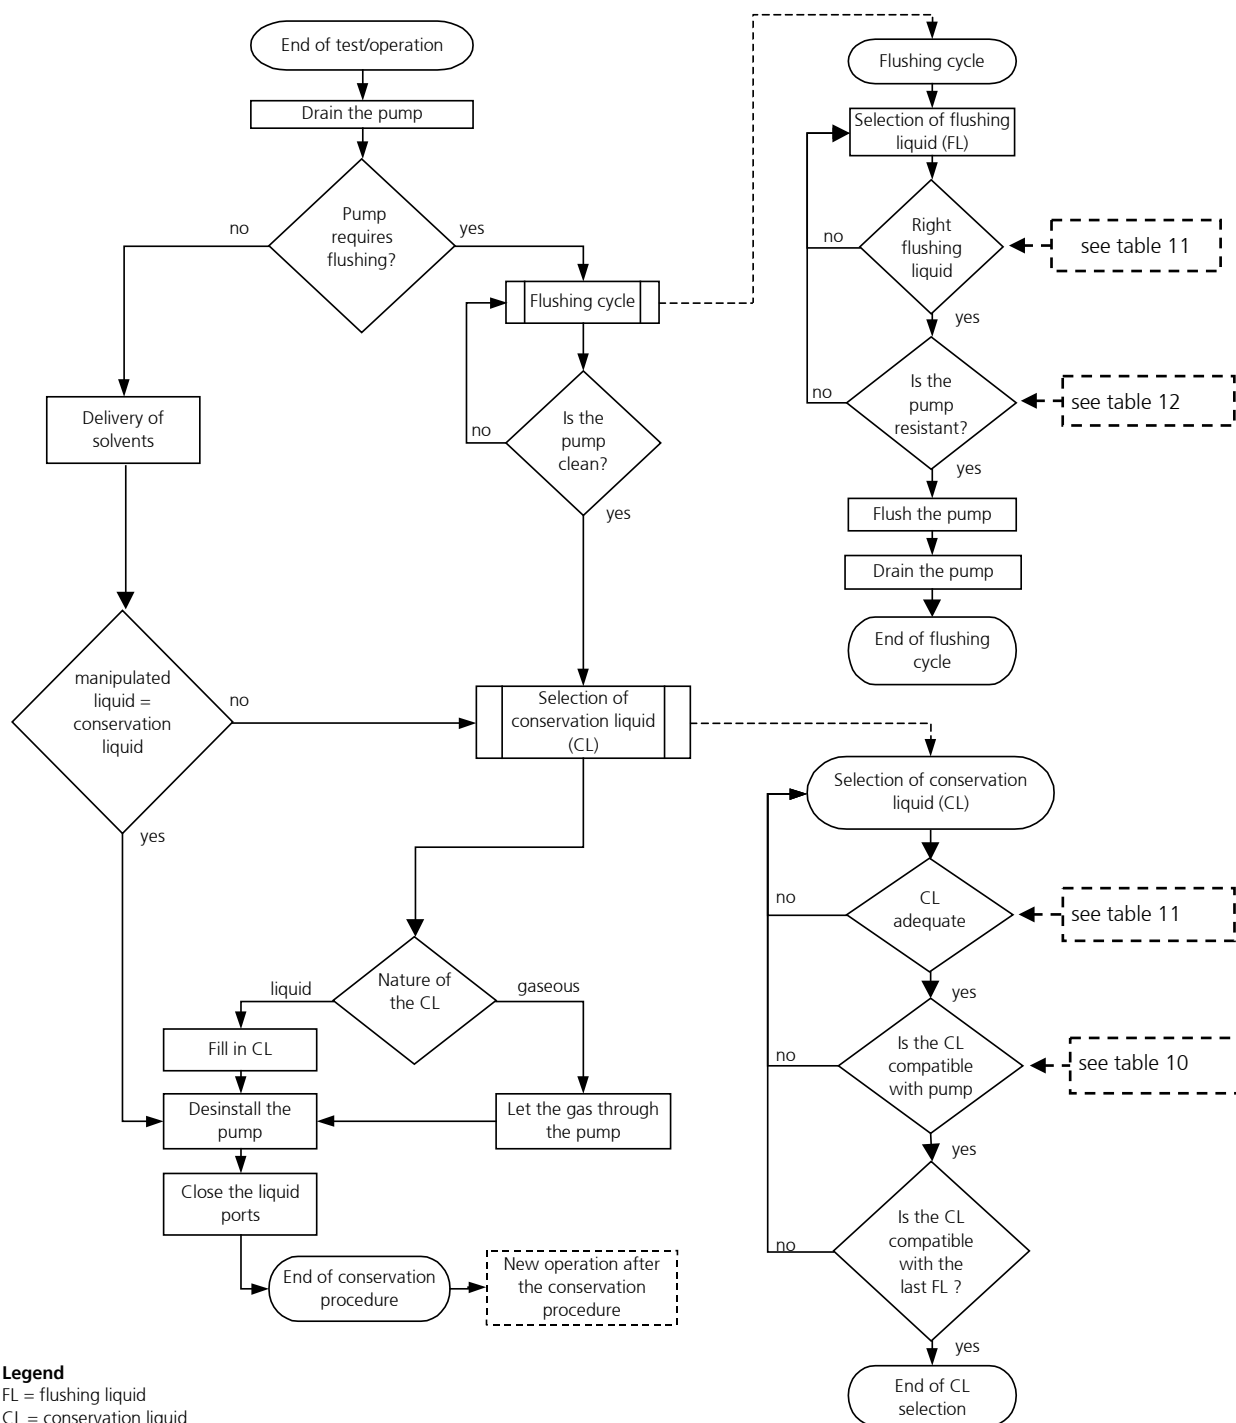

figure 21
By proceeding as shown in the diagram (see figure 21) you may prepare the pump for a longer standstill.
*Remark:* This diagram is repeated as a part of the figure 21 »Shutdown procedure«.